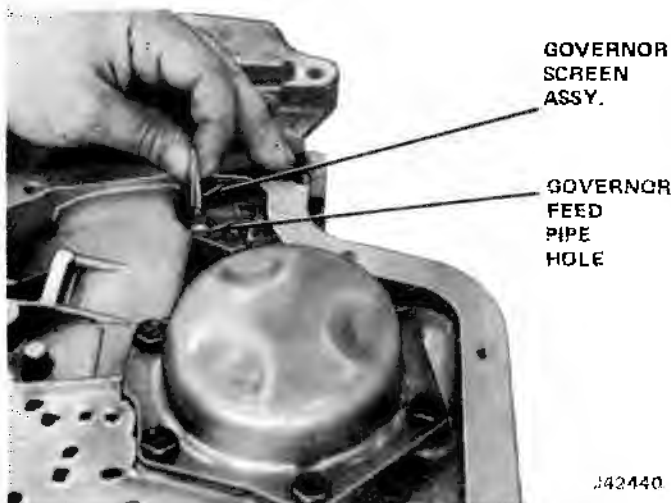

Fig. 7-10 Governor Screen
(4) Remove governor screen assembly from end of governor feed pipe or governor feed pipe hole in case (fig. 7-10).